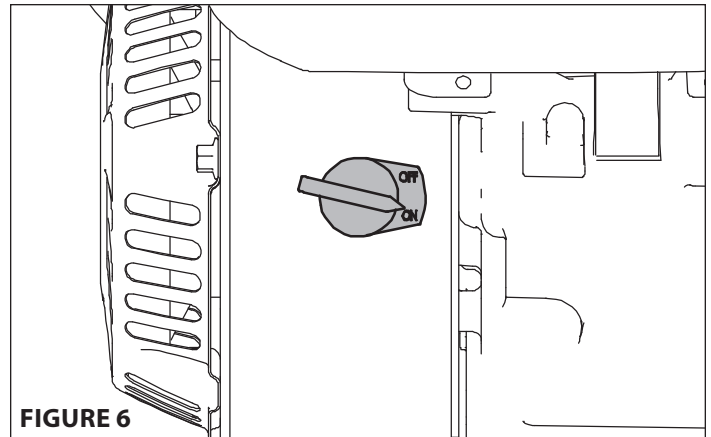

FIGURE 6
7. Turn the On/Off switch to the **ON** position. **SEE FIGURE 6**